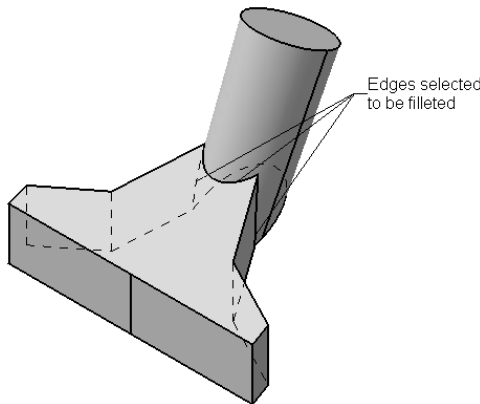

Figure 6-84 Edges selected to be filleted
- Apply fillets to all edges of the model, refer to Figures 6-84 through 6-87.
2. Select the edges, as shown Figure 6-84, and set the value of the **Radius** spinner to **12**.